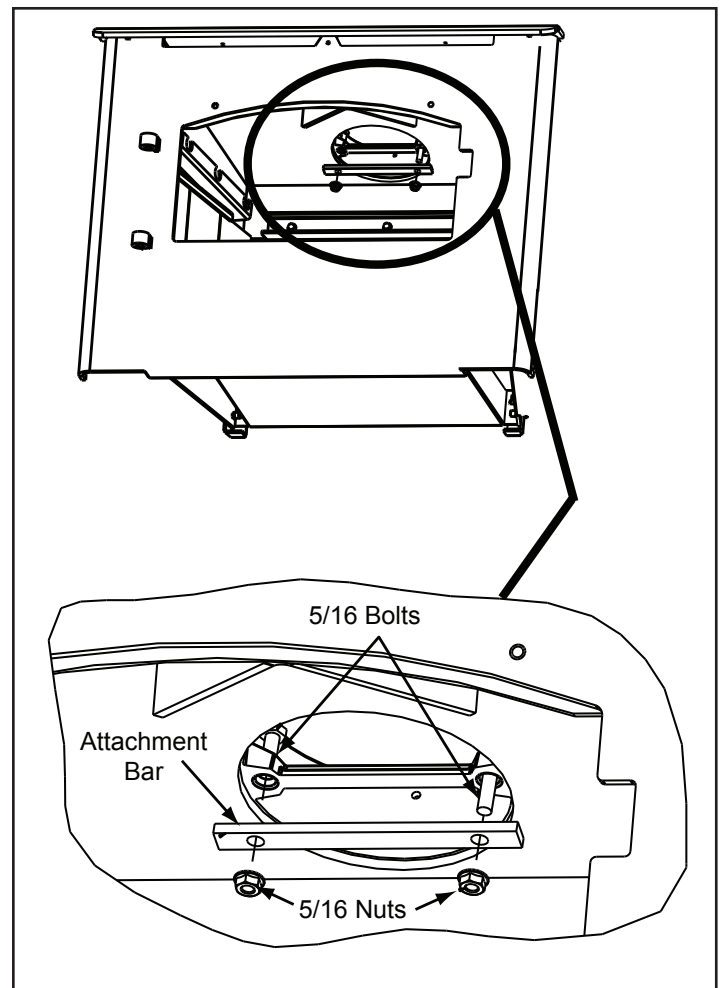

Figure 19.2
1. Once you have the appliance in place and secured, reach up through the flue opening and grab the attachment bar and pull down inside flue opening. **Figure 19.2.**